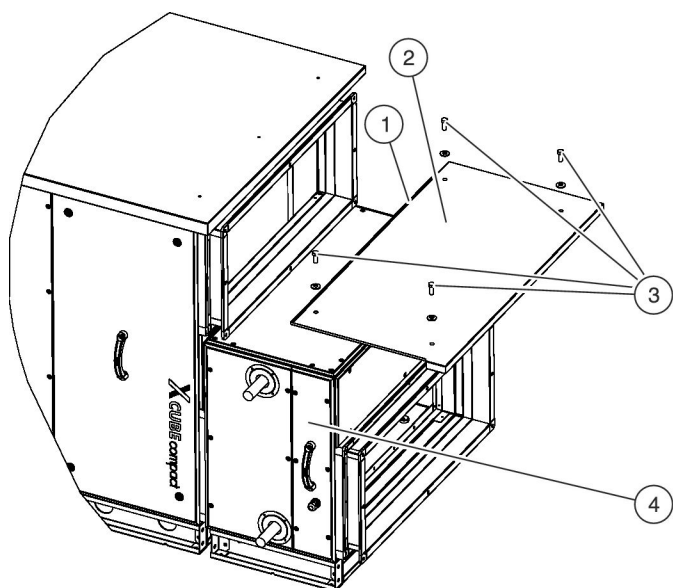

Fig. 25: Roof
1. ▶ Fit the seal ( Fig. 25 /1) between the roof ( Fig. 25 /2) and the accessory module ( Fig. 25 /4).
2. ▶ Use the four screws ( Fig. 25 /3) to screw-fix the roof ( Fig. 25 /1) onto the accessory module ( Fig. 25 /4).